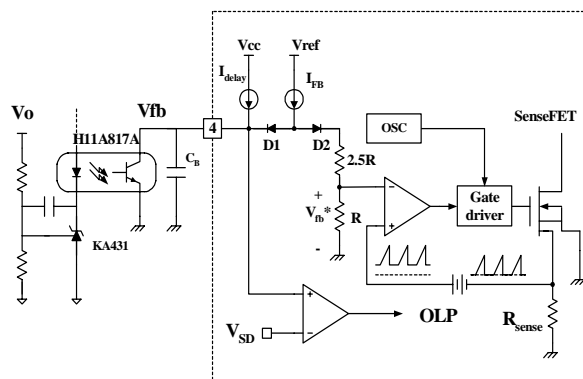

Figure 5. Pulse width modulation (PWM) circuit
2. Feedback Control: FSDM1265RB employs current mode control, as shown in Figure 5. An opto-coupler (such as the H11A817A) and shunt regulator (such as the KA431) are typically used to implement the feedback network. Comparing the feedback voltage with the voltage across the R_{sense} resistor in addition to the offset voltage makes it possible to control the switching duty cycle. When the reference pin voltage of the KA431 exceeds the internal reference voltage of 2.5V, the H11A817A LED current increases, thereby pulling down the feedback voltage and reducing the duty cycle. Typically this happens when the input voltage is increased or the output load is decreased.
2.1 Pulse-by-pulse current limit: Because current mode control is employed, the peak current through the Sense-FET is limited by the inverting input of PWM comparator (Vfb*) as shown in Figure 5. Assuming that the 0.9mA current source flows only through the internal resistor (2.5R + R = 2.8 kΩ), the cathode voltage of diode D2 is about 2.5V. Since D1 is blocked when the feedback voltage (Vfb) exceeds 2.5V, the maximum voltage of the cathode of D2 is clamped at this voltage, thus clamping Vfb*. Therefore, the peak value of the current through the Sense FET is limited.